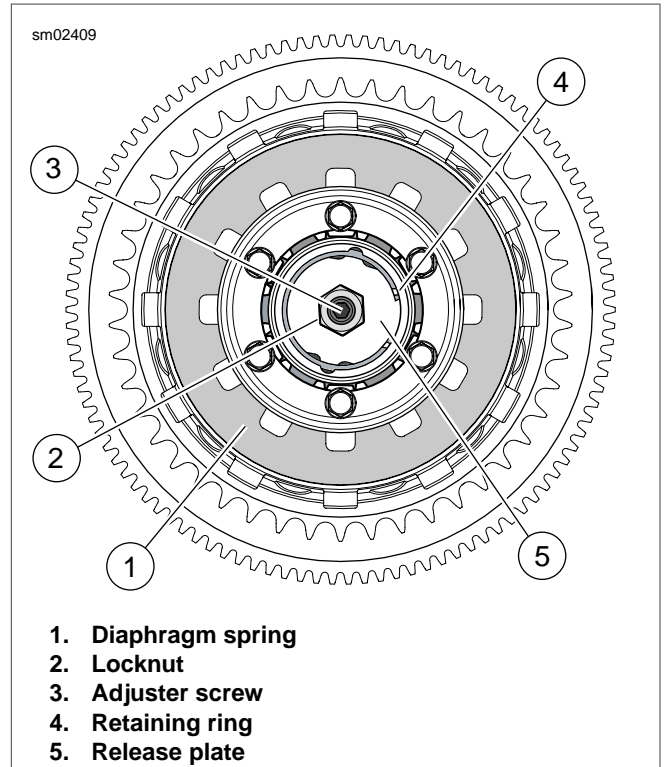

Figure 5-13. Clutch
9. See Figure 5-13. Install release plate (5) with locknut (2) and adjuster screw (3) into clutch hub bore. The word "OUT" stamped on the release plate should face outward.